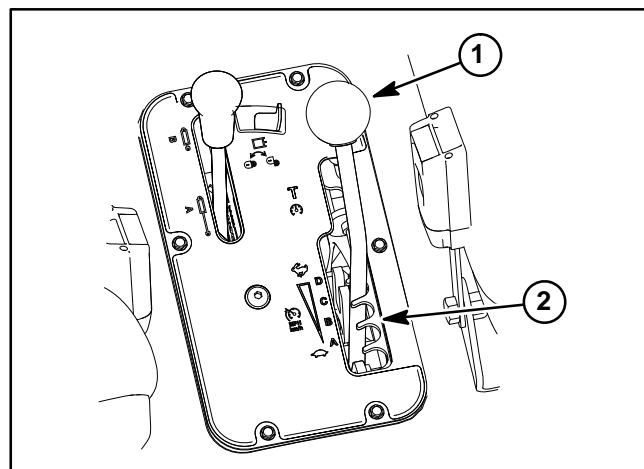
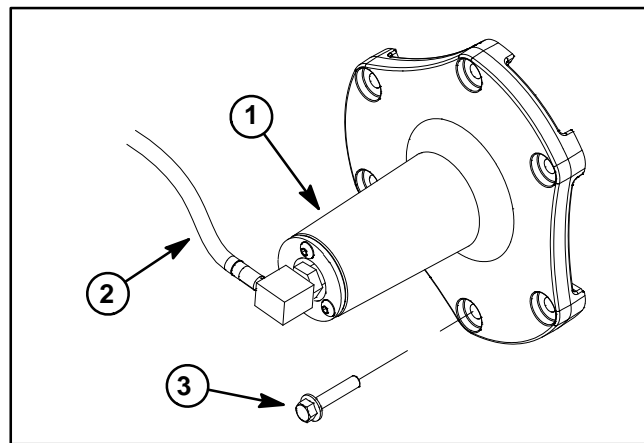

Figure 22
Figure 23
The speed limiter assembly is used on the Workman Auto vehicle to adjust the maximum opening of the primary clutch moveable sheave. The vehicle speed range can easily be adjusted with the speed range lever to limit the maximum ground speed for operations that require a constant speed (e.g. spraying or topdressing). The speed range lever (Fig. 22) is used to select one of the four (4) work-speed ranges that are used to limit maximum ground speed or a transport speed range that is used when the machine is moved between job sites.
2. Move speed range lever to the transport (T) position to remove pressure in the speed control system (Fig. 22).
3. Remove three (3) washer head screws (item 6) that secure speed limiter cover (item 7) to CVT enclosure cover (item 13). Separate speed limiter cover from CVT enclosure cover and remove from vehicle.
4. Remove speed limiter assembly (item 9) with attached hydraulic hose from primary clutch (Fig. 23):